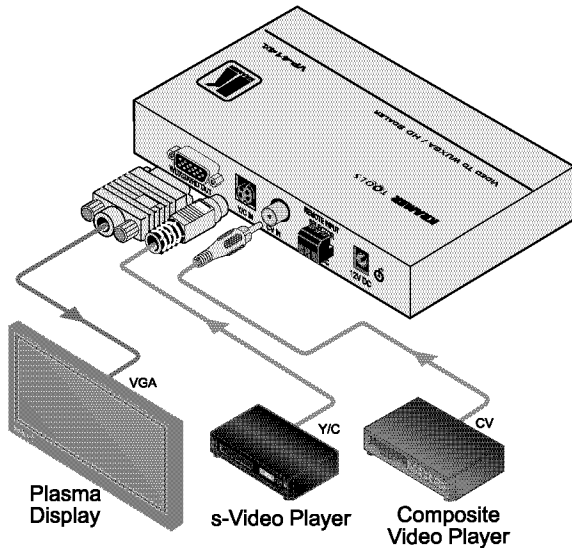

Figure 6: Connecting the VP-414xl
To connect the **VP-414xl**, as illustrated in the example in Figure 6, do the following¹:
3. Connect the 12V DC power adapter to the power socket and connect the adapter to the mains electricity (not shown in Figure 6).
2 The connection is not illustrated in Figure 6